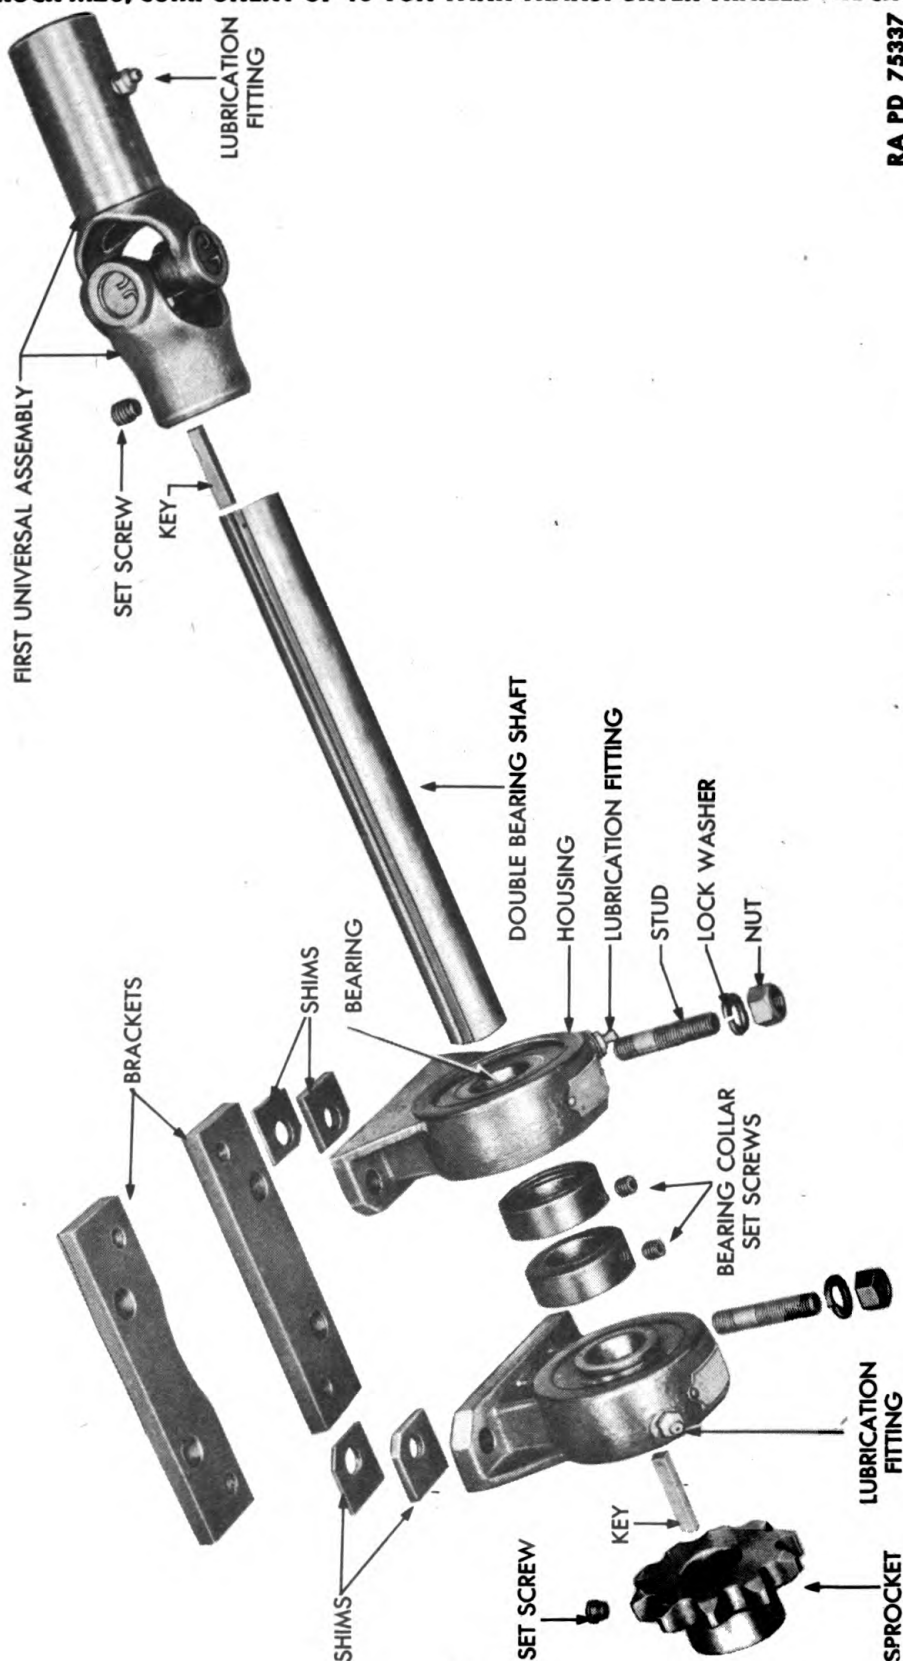

Figure 29 — Double Bearing — Disassembled
(2) **DISASSEMBLE DOUBLE BEARING (fig. 29).** Loosen two bearing collar set screws, and pull double bearing shaft with sprocket out
(2) **ASSEMBLE DOUBLE BEARINGS** (fig. 29). Install two bearings and shims on brackets, and fasten with four nuts and lock washers. Install sprocket key and sprocket on double bearing shaft, and